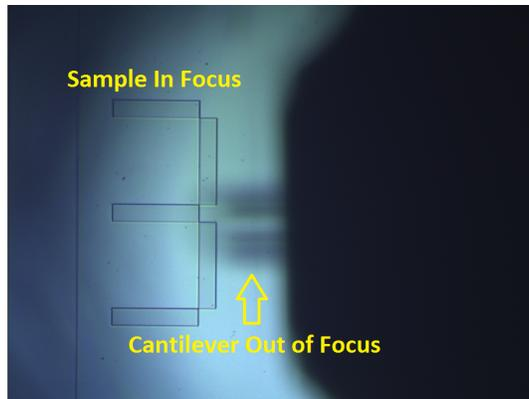

Figure 24: The sample is in focus while the cantilever is not, when there is a safe distance between the two.
3. **MAKE SURE THE TIP IS NOT TOO CLOSE TO THE SAMPLE.** If the sample is in focus, the cantilever should be out-of-focus – refer to Fig. 24 below. Make minimal adjustments to the X-Y micrometers labeled S1 and S2 to move the area of interest of the sample under the tip.